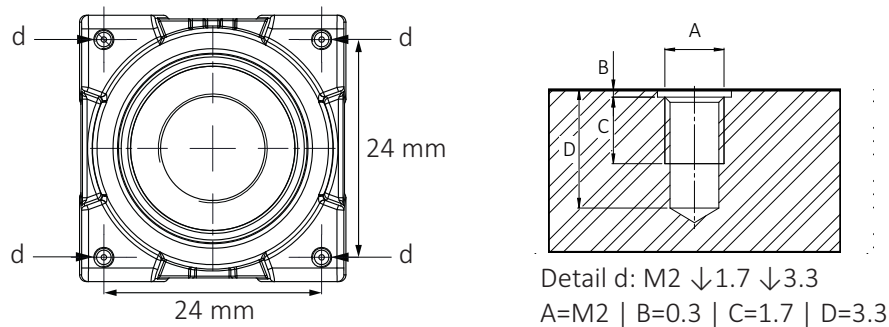

Figure 56: Camera front with mounting threads (c)
1. Mount the camera to the base using suitable M2 screws at 0.17 Nm maximum torque for a thread engagement (C) of 1.7 mm between screws and mounting threads, see Figure 56. For technical drawings, see G1 Closed Housing: Dimensions and mass on page 143.